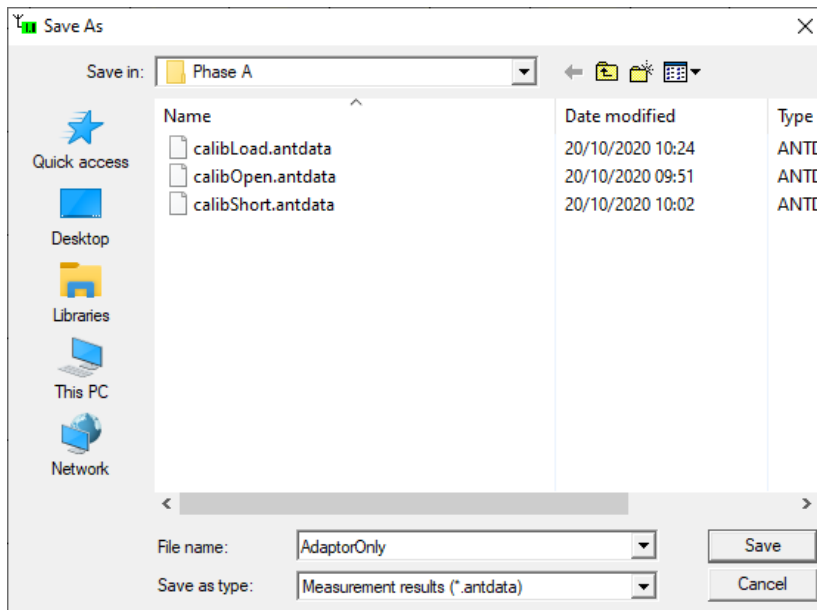

Figure 9-44: Save As “AdaptorOnly”
3. Select **File > Save As** and type the filename AdaptorOnly as shown in Figure 9-44.